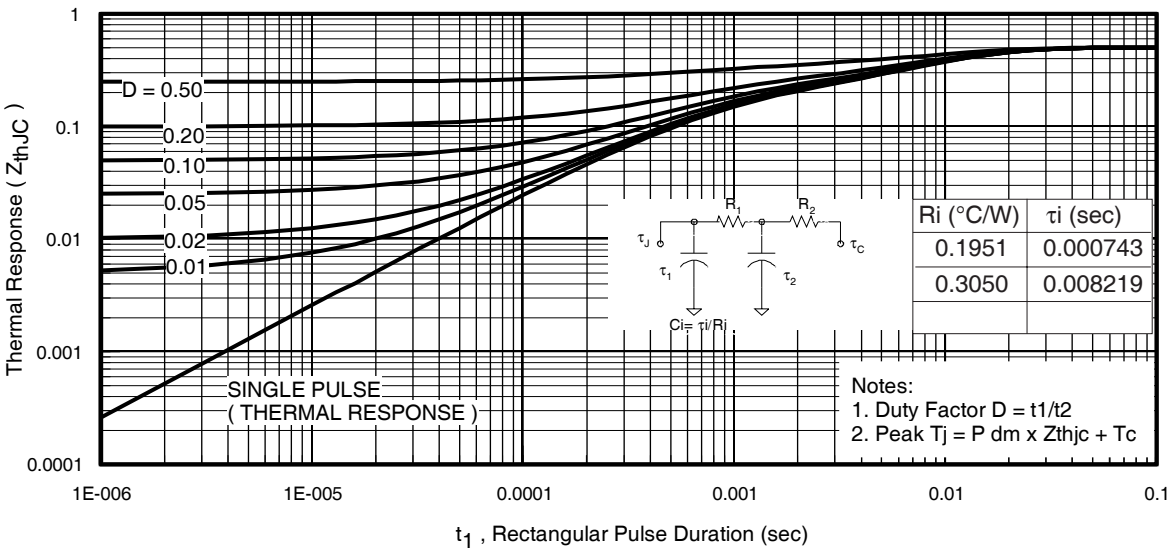
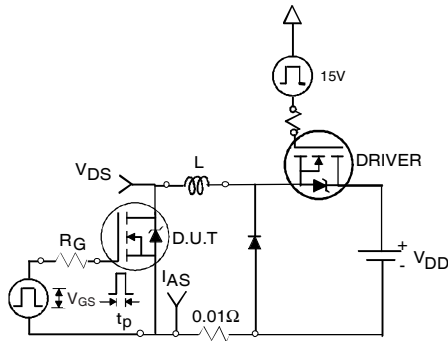

Fig 11. Maximum Effective Transient Thermal Impedance, Junction-to-Case
Fig 12a. Unclamped Inductive Test Circuit
- ① Repetitive rating; pulse width limited by max. junction temperature. (See fig. 11).
- ② Limited by T_{Jmax} , starting $T_J = 25^\circ\text{C}$, $L = 0.049mH$, $R_G = 25\Omega$, $I_{AS} = 160A$, $V_{GS} = 10V$. Part not recommended for use above this value.
- ③ Pulse width $\leq 1.0ms$; duty cycle $\leq 2\%$.
- ④ $C_{oss\text{ eff.}}$ is a fixed capacitance that gives the same charging time as C_{oss} while V_{DS} is rising from 0 to $80\% V_{DSS}$.
- ⑤ Limited by T_{Jmax} , see Fig.12a, 12b, 15, 16 for typical repetitive avalanche performance.
- ⑥ This value determined from sample failure population. 100% tested to this value in production.
- ⑦ This is applied to D²Pak, when mounted on 1" square PCB (FR-4 or G-10 Material). For recommended footprint and soldering techniques refer to application note #AN-994.
- ⑧ R_θ is measured at T_J of approximately 90°C .
3. Equation below based on circuit and waveforms shown in Figures 12a, 12b.
$Z_{thJC}(D, t_{av})$ = Transient thermal resistance, see figure 11)